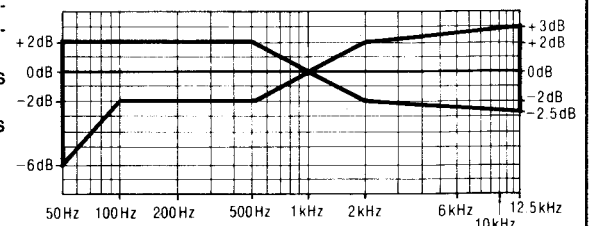
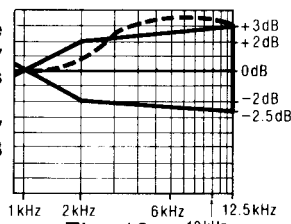
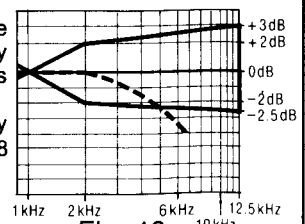

Fig. 11
Fig. 12
Fig. 13
6. Playback the signals recorded in step 6, and check if the frequency response curve is within the limits shown in the overall frequency response chart for normal tapes (fig. 11). (If the curve is within the charted specifications, proceed to steps 7, 8 and 9.) If the curve is not within the charted specifications, adjust as follows;
When the curve exceeds the overall specified frequency response chart (fig. 11) as shown in fig. 12.
When the curve falls below the overall specified frequency response chart (fig. 11) as shown in fig. 13.
- 2) Repeat steps 5 and 6 for confirmation (Proceed to steps 7, 8 and 9 if the curve is now within the charted specifications as shown fig. 11.)
- 3) If the curve still exceeds the specifications (fig. 11), increase bias current further and repeat steps 5 and 6.
- 3) If the curve still falls below the charted specifications (fig. 11), reduce bias current further and repeat steps 5 and 6.